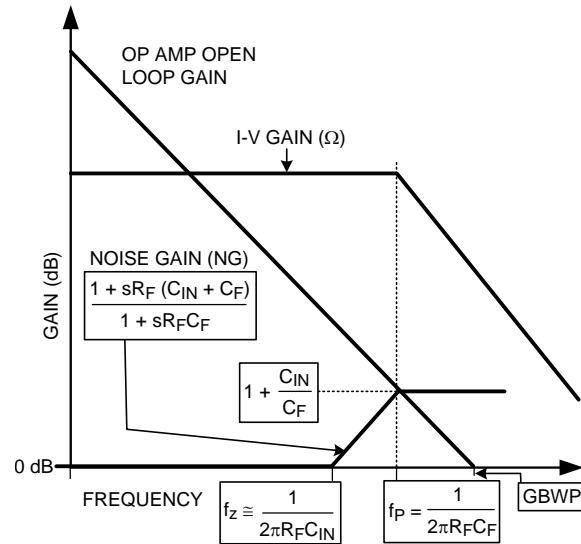

Figure 58. Transimpedance Amplifier Noise Gain and Transfer Function
Figure 58 shows the Noise Gain (NG) and transfer function (I-V Gain). As with most Transimpedance amplifiers, it is required to compensate for the additional phase lag (Noise Gain zero at  $f_z$ ) created by the total input capacitance:  $C_D$  (diode capacitance) +  $C_{CM}$  (LMH6624 CM input capacitance) +  $C_{DIFF}$  (LMH6624 DIFF input capacitance) looking into  $R_F$ . This is accomplished by placing  $C_F$  across  $R_F$  to create enough phase lead (Noise Gain pole at  $f_p$ ) to stabilize the loop.